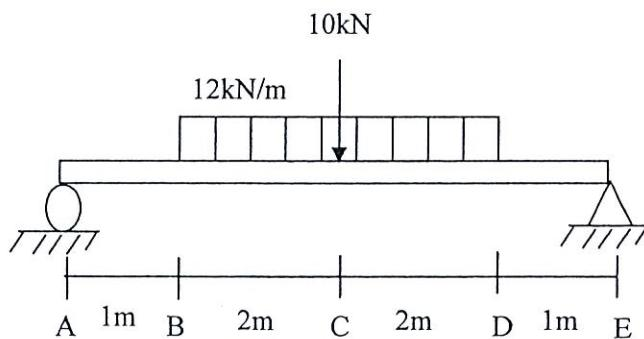

Figure B3 / Rajah B3
A 6m length of simply supported beam is subjected to a uniformly distributed load and point load as shown in Figure B3.
- (a) As shown in on Figure B3: